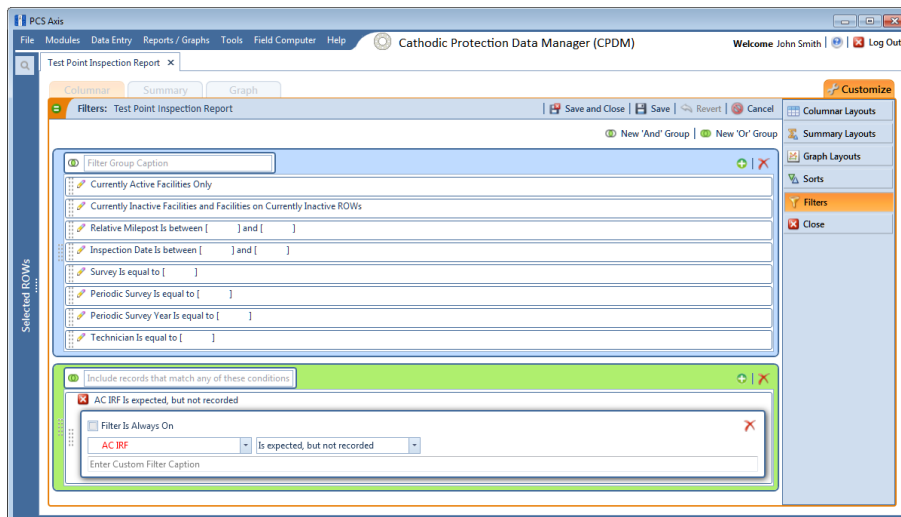

Figure 16-51. New 'Or' Filter Group
- Click  **New 'Or' Group** to open a filter properties group box (Figure 16-51).